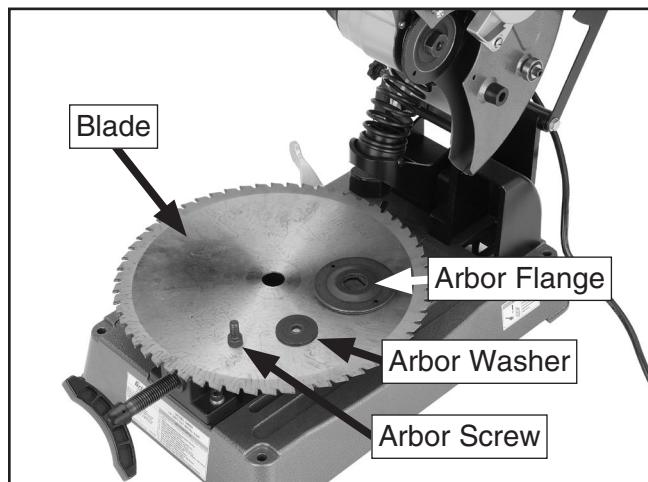

Figure 21. Blade components.
5. Remove the arbor screw, arbor washer, arbor flange, and the old blade (**Figure 21**).